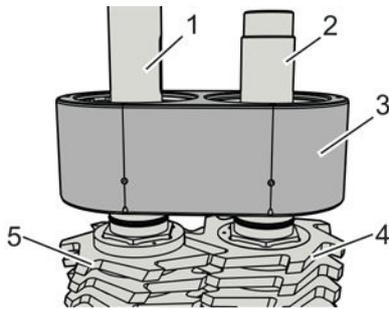

Fig. 104: Lifting off the upper bearing housing
20. ▶ Pull down the upper bearing housing (Fig. 104/3) from the cutter block shafts (Fig. 104/1, 2) over the drive shaft and place to the side.
21. ▶ Carefully take off the cutter blocks (Fig. 104/4, 5) in pairs from the cutter block shafts (Fig. 104/1, 2) and place to the side, secured against rolling away.